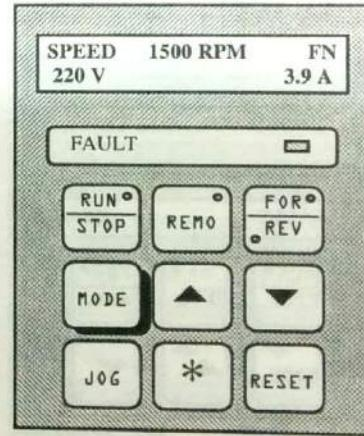

FIG.3.14
- ☞ Press **MODE** key to come back to normal display. (fig. 3.14)